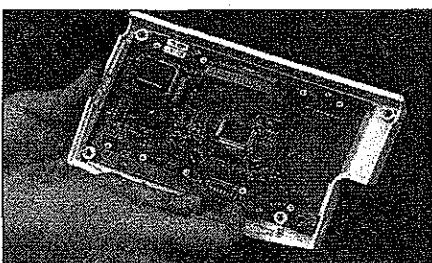

Figure 31
- Disconnect the membrane switch mylar ribbon cable from the display PCB (see Figure 31).